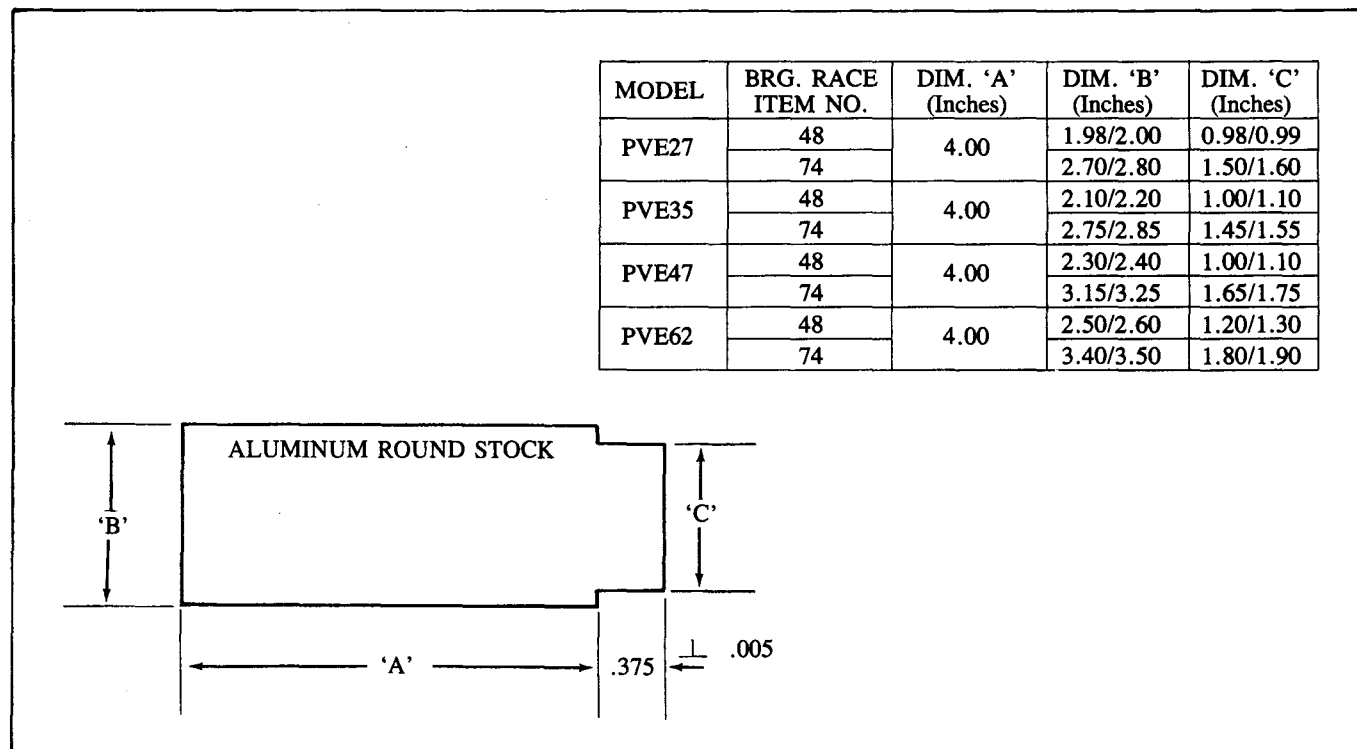

Figure 8. Bearing Race Installation Tool.
- Bearing race installation tool. (See Figure 8.)